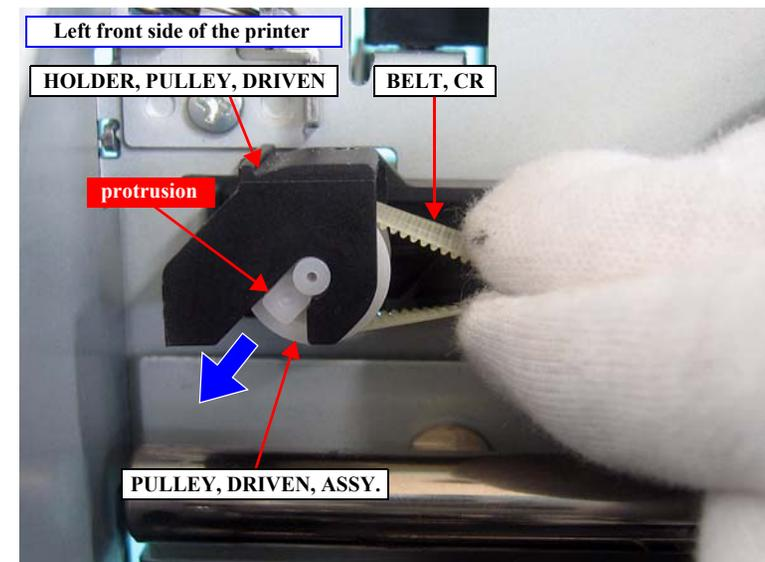

Figure 4-136. Removing the PULLEY, DRIVEN, ASSY.
10. Push the PULLEY, DRIVEN, ASSY. in the direction of the arrow, and remove the PULLEY, DRIVEN, ASSY. and the BELT, CR from the HOLDER, PULLEY, DRIVEN. *See Figure 4-136.*
Be sure to install the PULLEY, DRIVEN, ASSY. to the HOLDER, PULLEY, DRIVEN so that the protrusion of the PULLEY, DRIVEN, ASSY. is seen as shown in *Figure 4-136*.